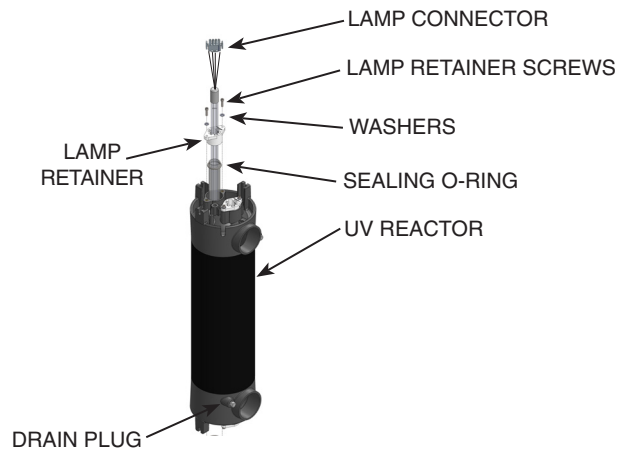

Figure 7: UV Reactor Subassembly
3. Place the Lamp Retainer over the Quartz Tube and using the hex key included in the parts bag, attach the Lamp Retainer to the UV Reactor using the Lamp Retainer Screws and Washers as shown in Figure 7. Make sure the Lamp Retainer flanges are fully seated against the UV Reactor.